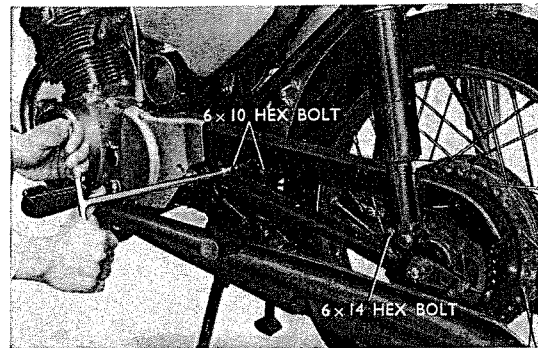

Fig. 4.64 Installation of chain case
8. Install the drive chain case. (Refer to Fig. 4.64)